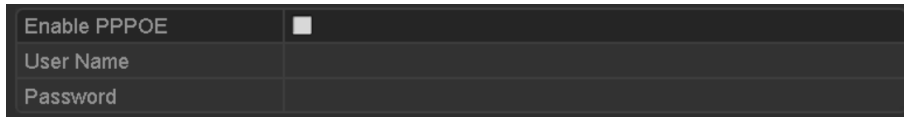

Figure 11-6 PPPoE Settings Interface
Step 2 Select the **PPPoE** tab to enter the PPPoE Settings interface, as shown in Figure 11-6.